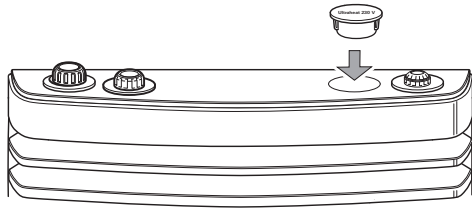

Fig. 22
- ▶ Replace a free blank cover in the cover of the S-heater with the blank cover with the inscription "Ultraheat 230 V" (Fig. 22).